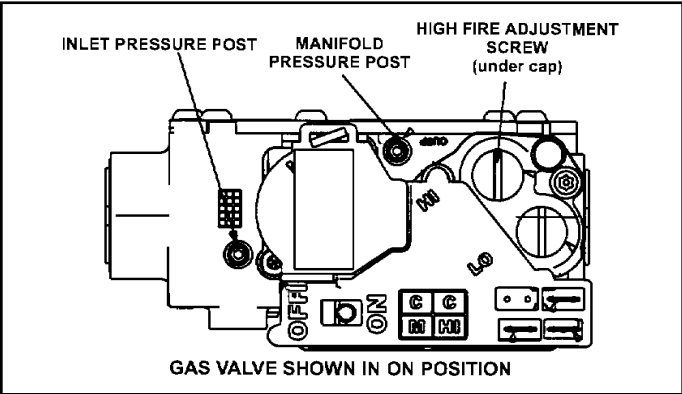

Figure 60. Gas Valve Shown In “ON” Position
- 6. Move gas valve switch to OFF. See Figure 60.
- 8. Move gas valve switch to ON. See Figure 60.
1. A manifold post located on the gas valve provides access to the manifold pressure. See Figure 60. Back out the 3/32 Hex screw one turn, connect a piece of 5/16" tubing and connect to a manometer to measure manifold pressure.